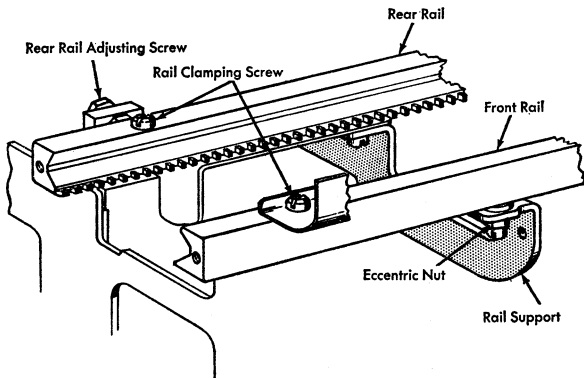

Figure 18. Rail Adjustments
2. RAIL SUPPORT ECCENTRICS. Adjust when the carriage is centered on the rails to just eliminate front to rear motion of the carriage (Figure 18).
3. REAR RAIL ADJUSTING SCREWS. Adjust these when the carriage is at each extreme margin to just eliminate any front-to-rear motion of the carriage. Then tighten the rear rail clamping screws (Figure 18).